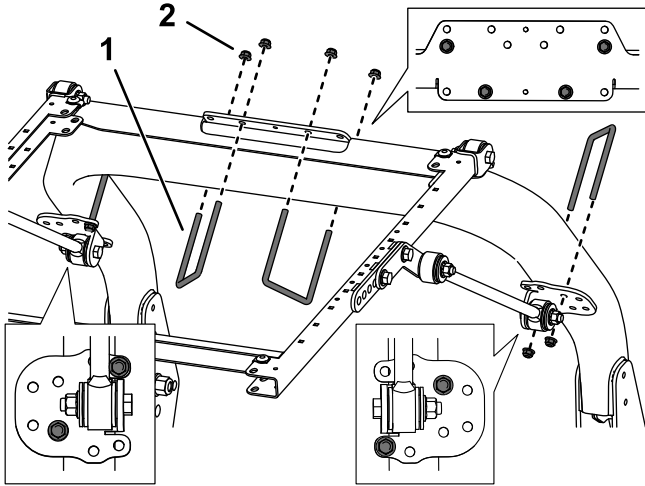

Figure 39
- Using the mounting holes shown in Figure 39, loosely secure each of the brace brackets to the roll bar posts with a U-bolt (3-1/2 x 5 inches) and 2 flange nuts.